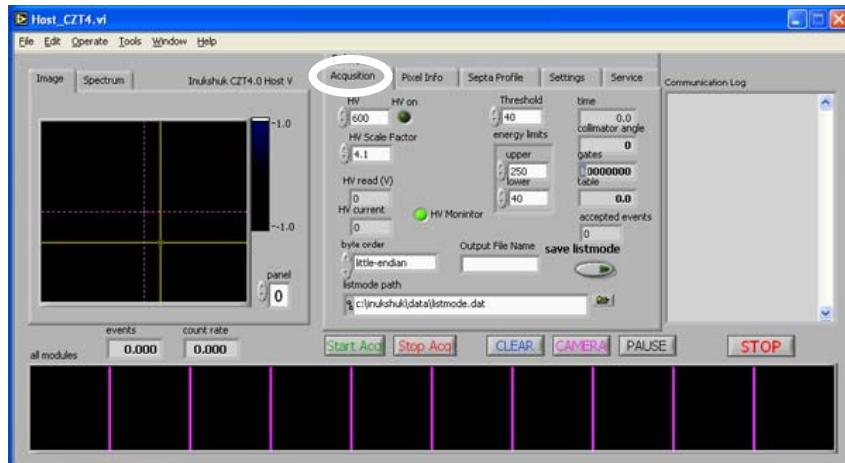

Figure 7-3
- A.) Click the Acquisition tab (circled in Figure 7-3).